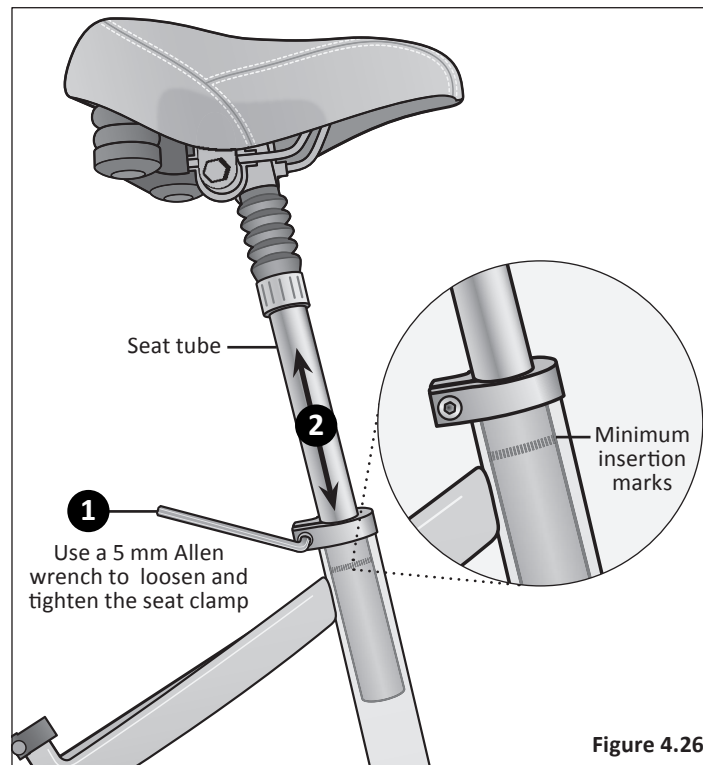

Figure 4.26
- 1 Using a 5 mm Allen wrench, loosen the seat clamp bolt. **Figure 4.26**